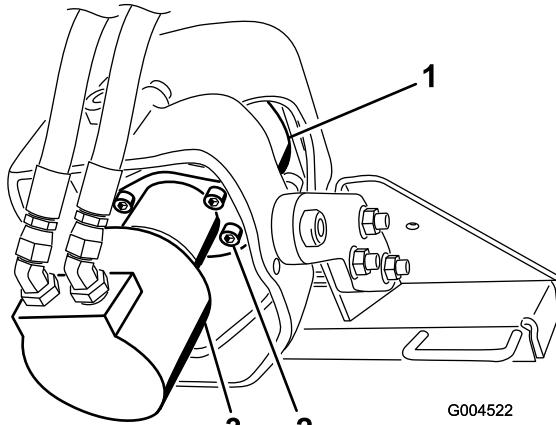

Figure 11
- Support the drive head over an oil pan (Figure 11).